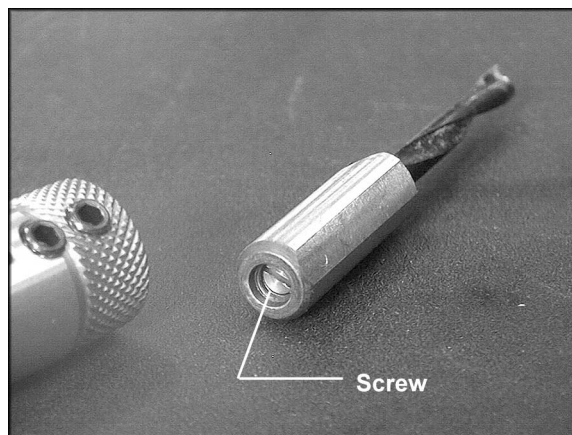

Figure 11
Boring bits (not included) are to be installed in the chucks, which are in turn mounted to the spindles of the machine. The chucks accept boring bits with 10mm diameter shanks. These boring bits will have a screw inside the shank (see Figure 11). This style of boring bit is available from the dealers listed on page 22. It can also be found at many woodworking supply stores.
9. Use a flat head screwdriver to turn the screw at the end of the bit shank (Figure 11) in or out until the bit will protrude the correct distance from the chuck.